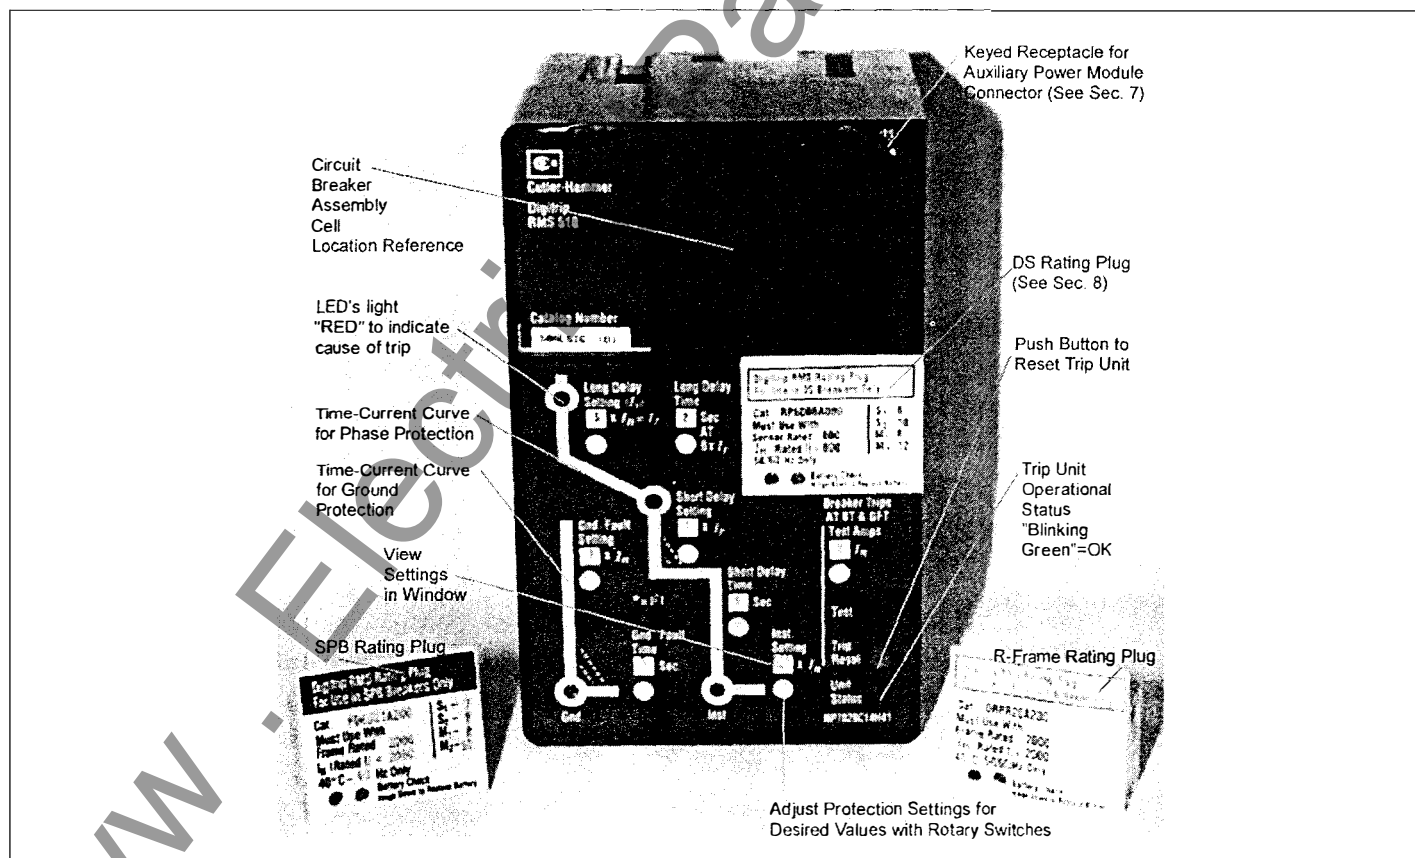
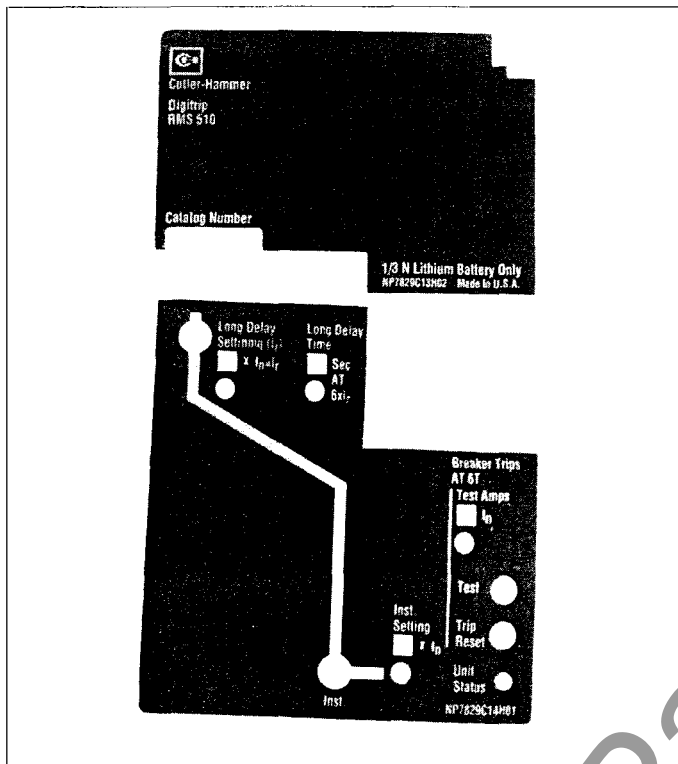
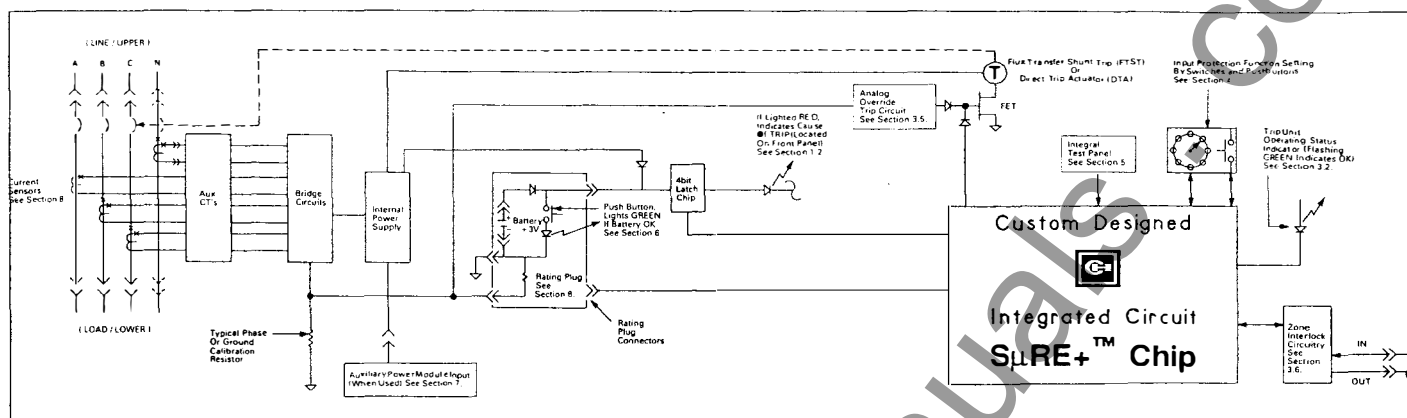
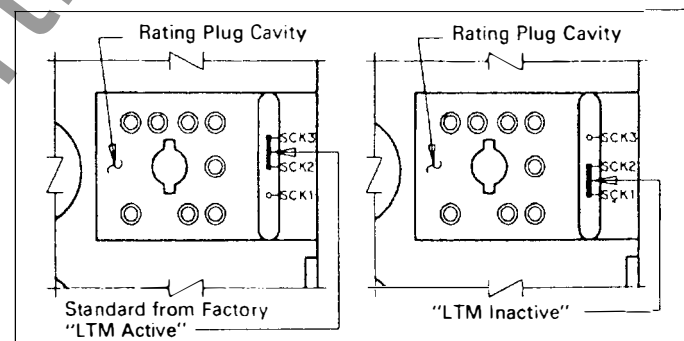

Fig. 1 Digitrip RMS 510 Trip Unit Model LSIG with Rating Plug
Fig. 2.1 Long Time/Instantaneous Protection (LI)
Fig. 3 Digitrip RMS 510 Block Diagram with Breaker Interface
Fig. 4.2.1 Long Time Memory "LTM" Jumper
The Digitrip RMS 510, illustrated in Fig. 1, is a custom application specific integrated circuit based trip unit suitable for use in types DS and DSL low voltage AC power circuit breakers and type SPB Systems Pow-R circuit breakers and Series C[®] R-Frame molded case circuit breakers.
The Digitrip RMS 510 Trip Unit is available in six different types. Each trip unit may be equipped with a maximum of five phase and two ground (time-current) adjustments to meet specific application requirements. The types of protection available for each model include the following, which are illustrated in Figures 2.1 through 2.6:
The Digitrip RMS 510 Trip unit provides three basic functions: Protection, Information and Testing. A typical trip unit and rating plug are illustrated in Fig. 1. Individual product instruction leaflets referenced in Section 9.0 illustrate typical Digitrip RMS Trip Units installed in specific breakers.
The trip unit employs the Cutler-Hammer Inc. custom designed integrated circuit μ RE + chip, which includes a microcomputer to perform its numeric and logic functions. The principle of operation is described by the block diagram shown in Fig. 3.
The LEDs, shown in Figs. 1 and 2.1-2.6, on the face of the trip unit, light "RED" to indicate the reason for any automatic trip operation. As indicated in Figs. 2.1-2.6, each LED is strategically located in the related segment of the time-current curve depicted on the face of the trip unit. The reason for trip is identified by the segment of the time-current curve where the LED is lighted "RED". Following an automatic trip operation, the back-up battery, continues to supply power to the LEDs as indicated in Figs. 3 and 6. To check the status of the battery, see Section 6.
Push the "Trip Reset" button shown in Fig. 1, to turn "Off" the LEDs following a trip operation.
A green colored LED, as shown in Fig. 1, indicates the operational status of the trip unit. Once the load current through the circuit breaker exceeds approximately 10% of the frame/current sensor rating, the green LED will flash "On" and "Off" once each second, to indicate the trip unit is energized and operating properly.
Zone Selective Interlocking (or Zone Interlocking) is available (see Fig. 3) for Digitrip RMS Trip Units having Short Delay and/or Ground Fault protection. Zone Selective Interlocking provides the fastest possible tripping for faults within the breaker's zone of protection, and yet also provides positive coordination among all breakers in the system (mains, ties, feeders and downstream breakers) to limit the outage to the affected part of the system only. When Zone Interlocking is enabled, a fault within the breaker's zone of protection will cause the RMS DIG-ITRIP trip unit to:
Prior to placing circuit breaker in operation, each trip unit protection setting must be set to the values specified by the engineer responsible for the installation. The number of settings that must be made is determined by the protector model supplied as illustrated in Figs. 2.1 through 2.6. Each setting is made with a rotary switch, using a small screwdriver. The selected setting for each adjustment appears in its respective rectangular viewing window as illustrated in Fig. 1.
In certain applications it may be desirable to disable the LTM function. The LTM function can be disabled by (first opening the breaker and then) removing the Rating Plug (See Figures 1 and 6), and lastly moving the LTM jumper (inside the rating plug cavity, See figure 4.2.1) to its "INACTIVE" connection. (You can enable the LTM function again any time you wish by moving the LTM jumper back to its original "ACTIVE" connection.)
- 2) There is a condition under which the Long Delay Trip LED can erroneously indicate a LDT has occurred, even though the breaker is still closed. This can happen when an overload current momentarily exceeds the Long Delay Current Setting, I_r , so that the Long Delay LED flashes "RED" to indicate the overload condition. Then if, at the very moment when the LED is "ON", the load current would then suddenly drop to a value less than 10% of the breaker frame (or current sensor) rating, the trip unit stops functioning while the "4bit Latch Chip" (See Fig. 3) is set and the LED remains Lighted. If the current would again increase to a value above the Long Delay Current Setting, I_r , and then return to normal, the
LDT will reset itself. You can of course, manually clear the LDT (or any other trip indication) at any time, by pushing the "PUSH TO RESET" button. (See Figure 1.)